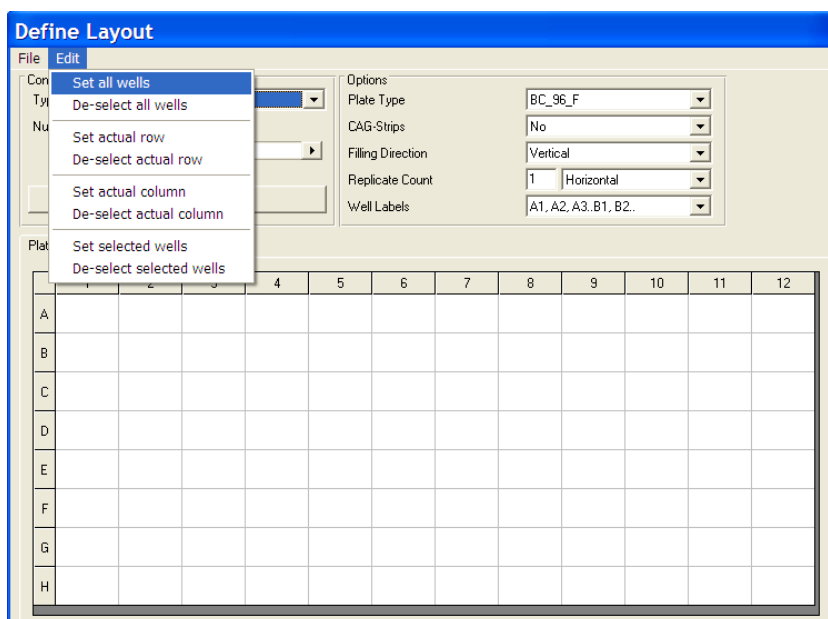

Figure 8-3: Define Layout – Plate Layout
Plate Layout defines the location of standard, control, blank, and sample wells on the plate (Figure 8-3). Well locations may also be edited and deleted using the options in Plate Layout.
1. In Plate Layout, click on the desired well to define (Figure 8-3).
4. Set/De-select actual row — populates or clears all wells in the same row as the first well selected (Figure 8-3).
5. Set/De-select actual column — populates or clears all wells in the same column as the first well selected (Figure 8-3).